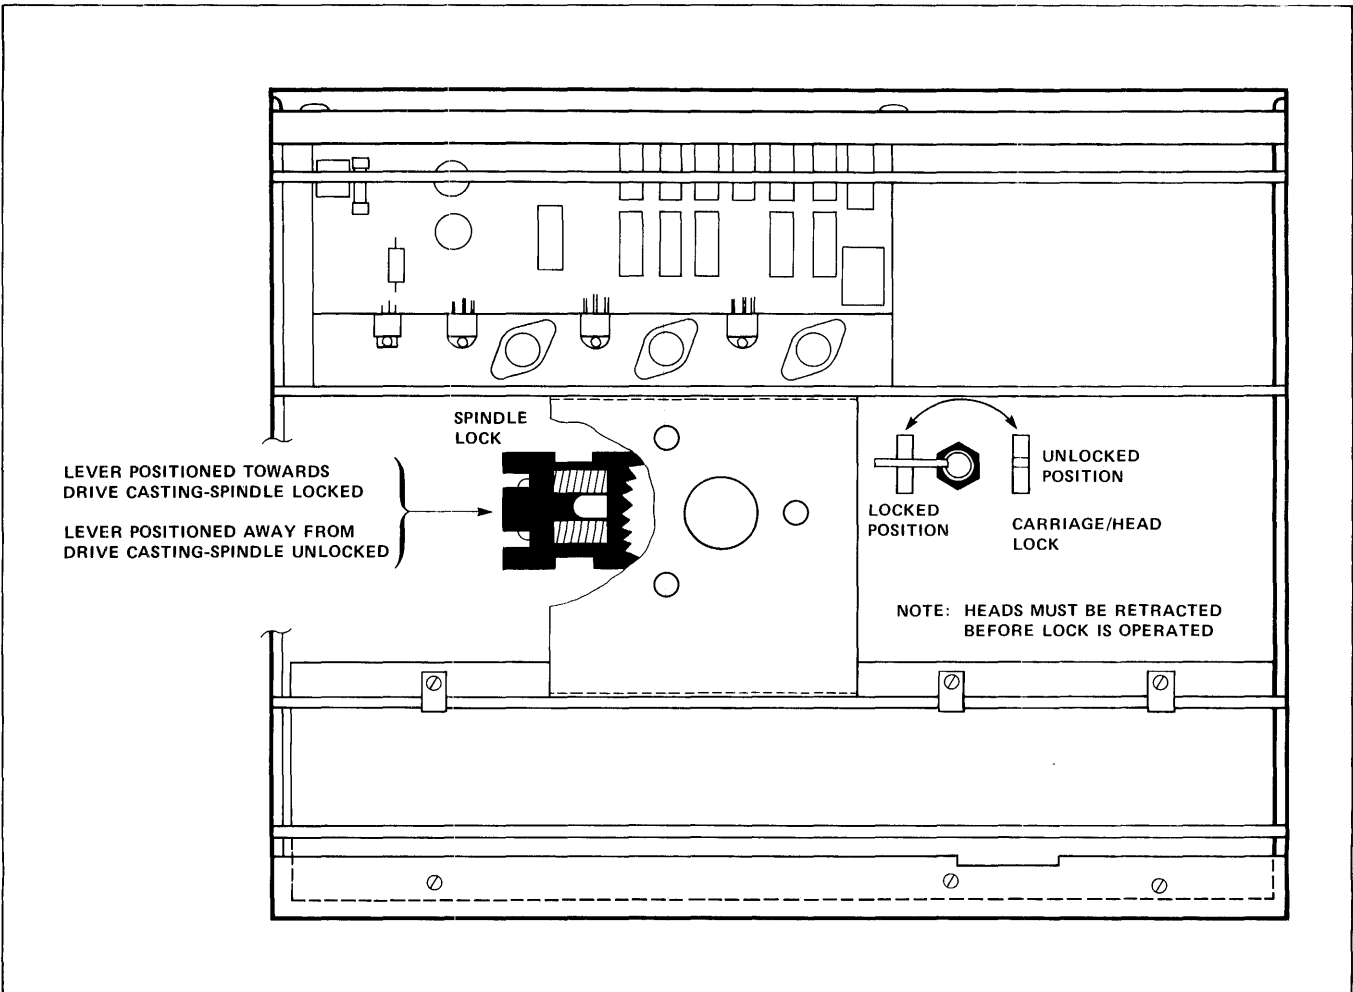

Figure 3-2. Spindle and Head Carriage Locks
3.3.2 Spindle and Head Locks. Both the drive spindle and the head carriage are locked at the factory prior to shipment. After the drive has been positioned for bench testing or installed in the final system, the spindle and head carriage locks must be set in the "Unlock" position to allow normal operation. Both locks are located on the bottom of the HDA (Head Disc Assembly). See Figure 3-2.
3.4.1 Spindle and Carriage Locks. Before packaging a drive for shipment, it is necessary to secure the spindle and carriage locks. (See Figure 3.2.) A sequence down operation must be performed before the drive can be removed from the system and the locks are engaged. After the spindle has come to a complete stop, engage the spindle lock to clamp the fan blades. Also, move the head carriage lock to the "Locked" position since the heads should be retracted into the landing zone by the previous sequence down operation. If